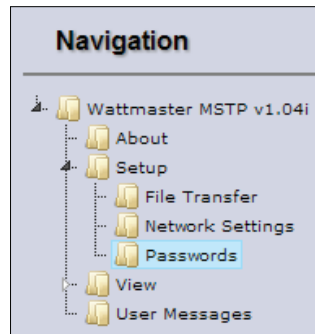

Figure 35: Setup - Passwords
5.) In order to return to the *Passwords Window*, in the *Navigation Window* on the left of the FS-GUI Screen, *click* **<Setup>** and then *click* **<Passwords>**. See **Figure 35**. The *Passwords Window* will appear.